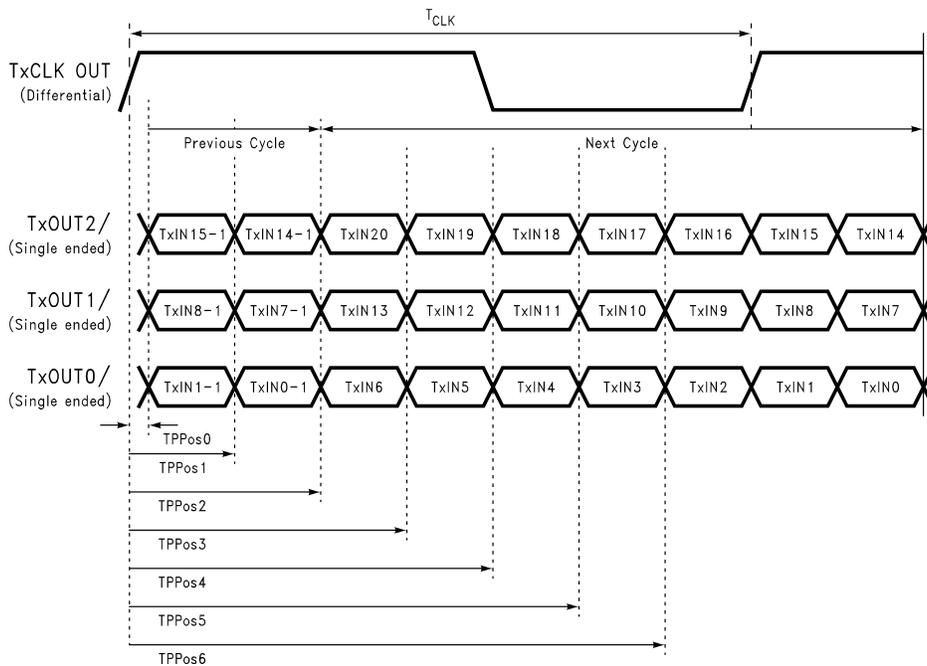

Figure 12. Transmitter LVDS Output Pulse Position Measurement
(1) The Minimum and Maximum Limits are based on statistical analysis of the device performance over process, voltage, and temperature ranges. This parameter is functionality tested only on Automatic Test Equipment (ATE).
(2) The Limits are based on statistical analysis of the device performance over process, voltage, and temperature ranges. Output jitter is measured with a cycle-to-cycle jitter of 3ns applied to the input clock signal. A jitter event of 3ns, represents worse case jump in the clock edge from most Graphics controller VGA chips currently available. This parameter is used when calculating system margin (RSKM). See Figures 12, 13 and AN-1059.
Figures 12 and 13 illustrate the timing of the input clock relative to the input data. The input clock (TxCLKin) is intentionally shifted to the left $-3ns$ and $+3ns$ to the right when data (Txin0-27) is high. This 3ns of cycle-to-cycle clock jitter is repeated at a period of $2\mu s$, which is the period of the input data ($1\mu s$ high, $1\mu s$ low). At different operating frequencies the N Cycle is changed to maintain the desired 3ns cycle-to-cycle jitter at $2\mu s$ period.